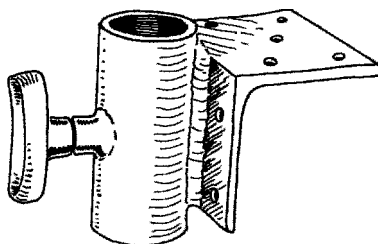

Figure 2.76 Wall bracket (set).
1. Similar in design to baby plates, wall brackets are fitted with 1-1/8 in. receivers (Figure 2.76).